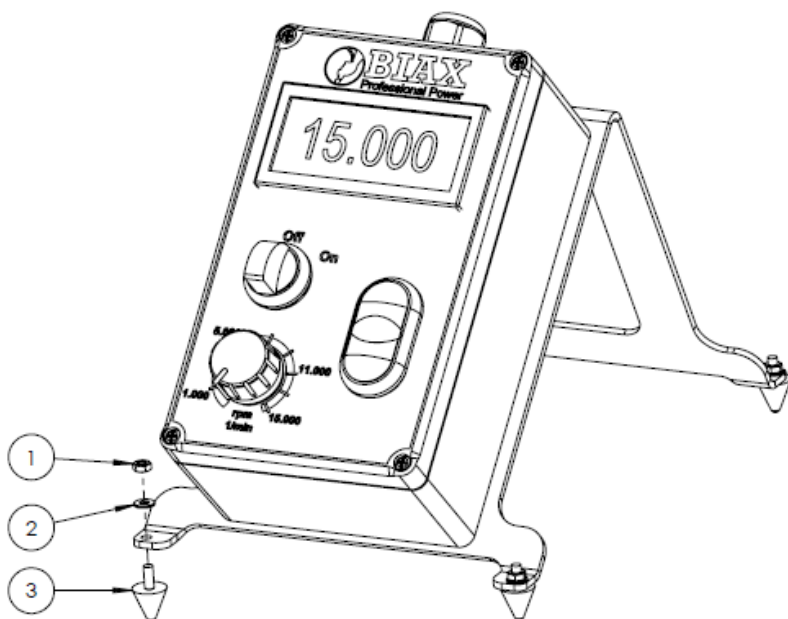

Figure 3: Mounting the Operating Unit for Bench Use
The supplied rubber-metal feet (3) are attached at 4 points. Each foot is bolted to the holder with a nut (1) and a washer (2) as shown in Figure 3.